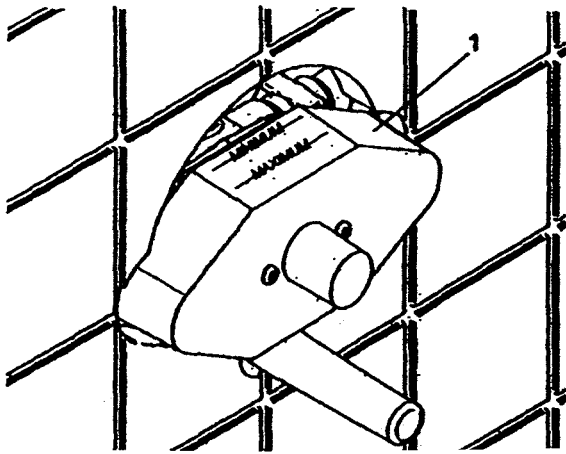

Fig. 4
Position valve with 1/2" shower outlet marked "S" up and the 1/2" tub outlet marked "T" down. Finished wall must be within dimensions shown on finished wall template (1) (see Fig. 4 & 5).
Finished wall template (1) must remain intact for finished wall surface measurements and as a template for plastering and/or tilling (see Fig.4).